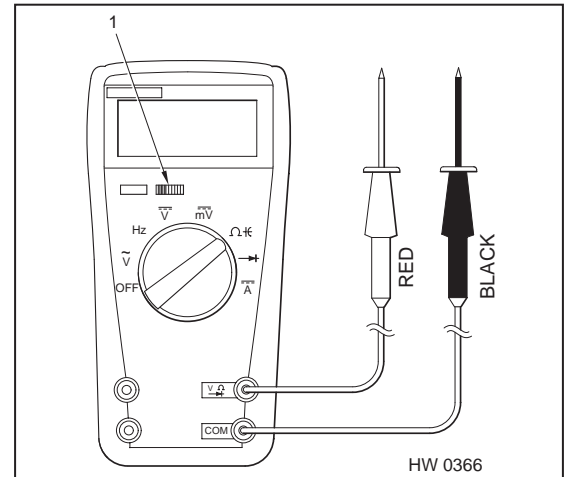

Fig. 4.28 - Typical Multimeter
- c) Using the recommended digital multimeter switched to the resistance/capacitance position (Ω μ ϵ) (fig. 4.28), hold the red probe on the positive terminal of the capacitor and the black probe on the unmarked terminal.
- a) Use the recommended digital multimeter switched to the resistance/capacitance measuring range (Ω μ ϵ). Press the yellow button (1) to select capacitance measurements.